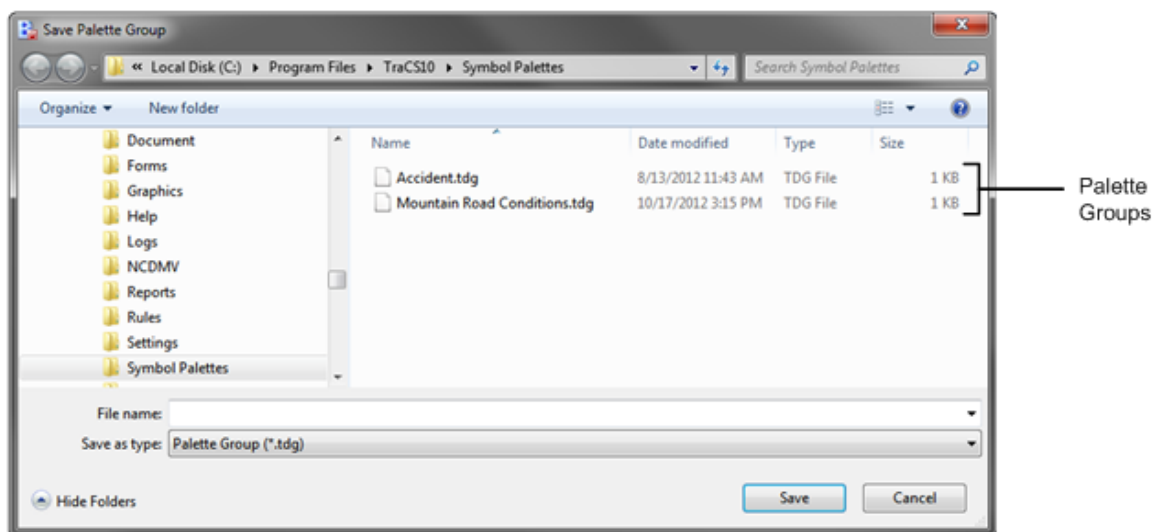

Figure 141. Save Palette Group Dialog Box
2. Select **Create Palette Group** from the **File** menu. The **Save Palette Group** dialog box opens, as shown in Figure 141.